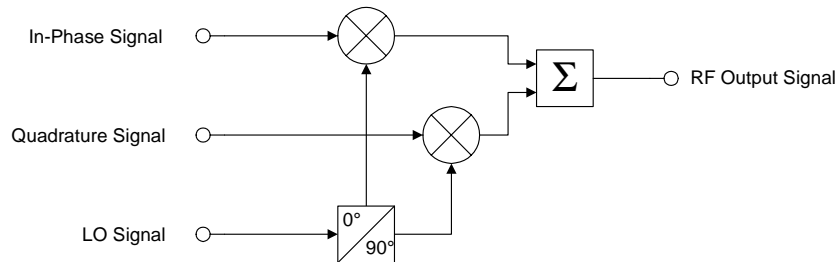

Figure 1. Quadrature Modulator Block Diagram
Quadrature modulator performance can be correlated to a set of specifications known as Carrier and Sideband Suppression. In addition, Sideband Suppression can be correlated with the amplitude and phase balance of the In-Phase (I) and Quadrature (Q) signals and Carrier Suppression can be correlated to the DC offset between the I and Q signals (see Figure 1). For a more thorough discussion of the theory and mathematics behind these specifications refer to RF Micro Devices application note AN0001.